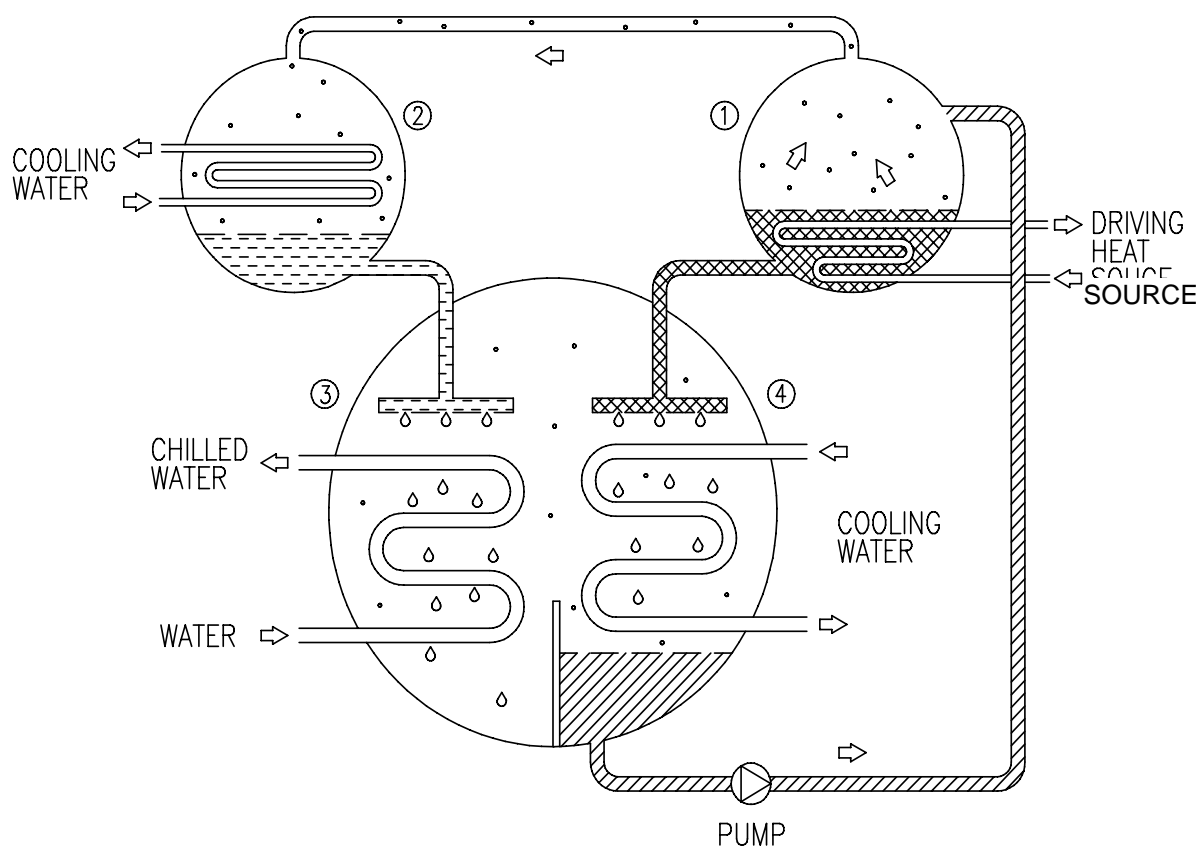

Fig. 2-6. Basic Cycle of Single Effect Type
As shown on Fig. 2-6, this is the basic operational cycle of the single effect type Absorption Machine. Part ① shows a Generator, part ② shows a Condenser, part ③ shows an Evaporator and part ④ shows an Absorber.